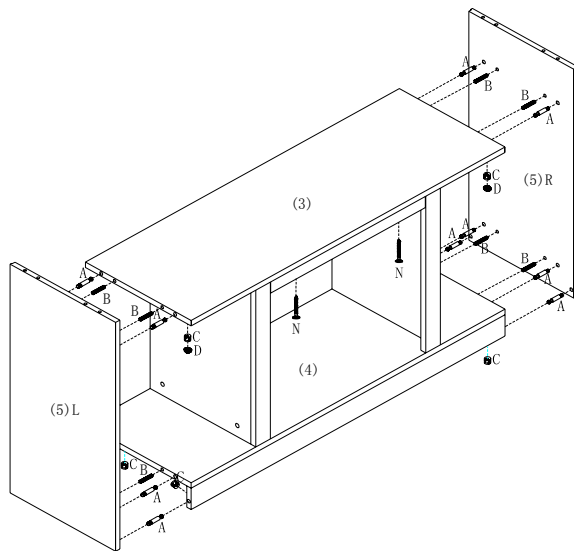

Figure 2
INSERT 12PCS CAM-BOLTS(A) AND 8PCS WOOD DOWELS(B) INTO PREDRILLED HOLES ON INSIDE OF SIDE PANEL (R&L) (5),AND FIT INTO CORRESPONDING HOLES ON ENDS OF ASSEMBLE UNIT,THEN INSERT 12PCS CAM-LOCK(C) INTO BIG HOLES ON INSIDE OF ASSEMBLE UNIT WITH SLOT FOR SCREWDRIVER FACING OUTWARD. ROTATE CAM-LOCKS (C) CLOCKWISE TO SECURE CAM-BOLTS (A). PUSH COVERS (D) INTO CAM-LOCKS (C). THEN USE LOGN FLAT HEAD SCREW(N) TIGHTEN MIDDLE FRONT PANEL (2) AS FIGURE 2 SHOWN.